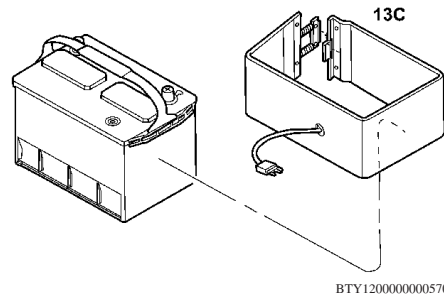

Fig. 1 Battery heater blanket removal
6. Disconnect heater blanket cord, if equipped, **Fig. 1**.
10. Remove battery and battery heater blanket from battery tray as a unit, if equipped. Carefully slide heater blanket straight off battery, **Fig. 1**.